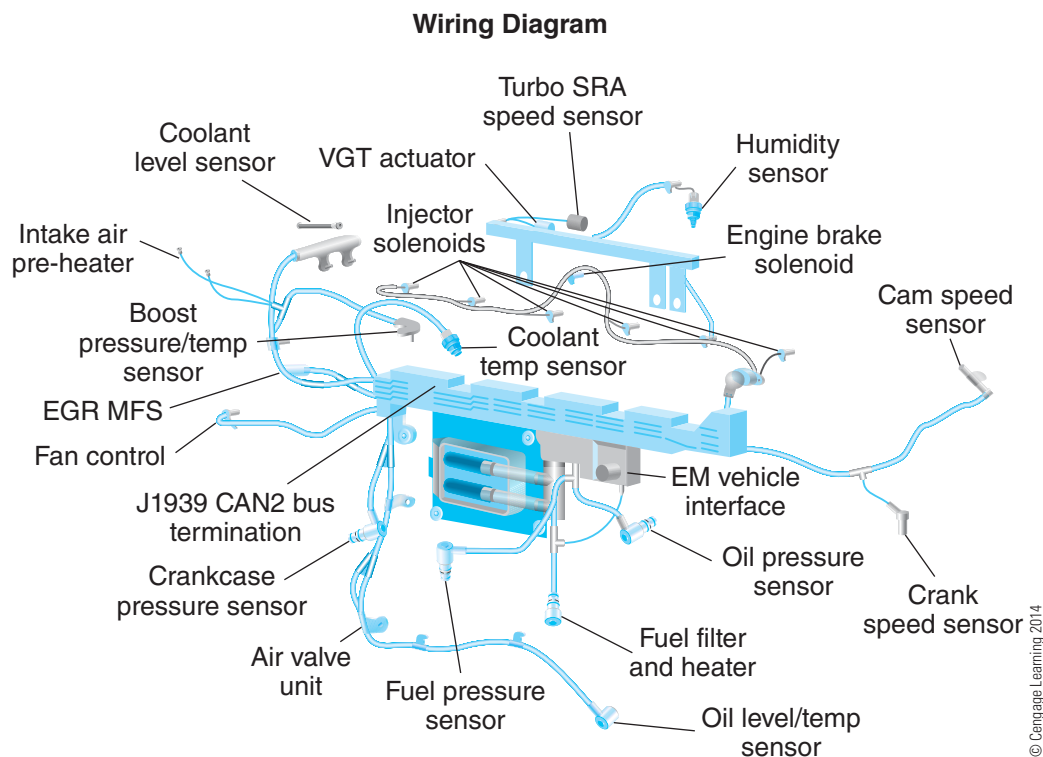
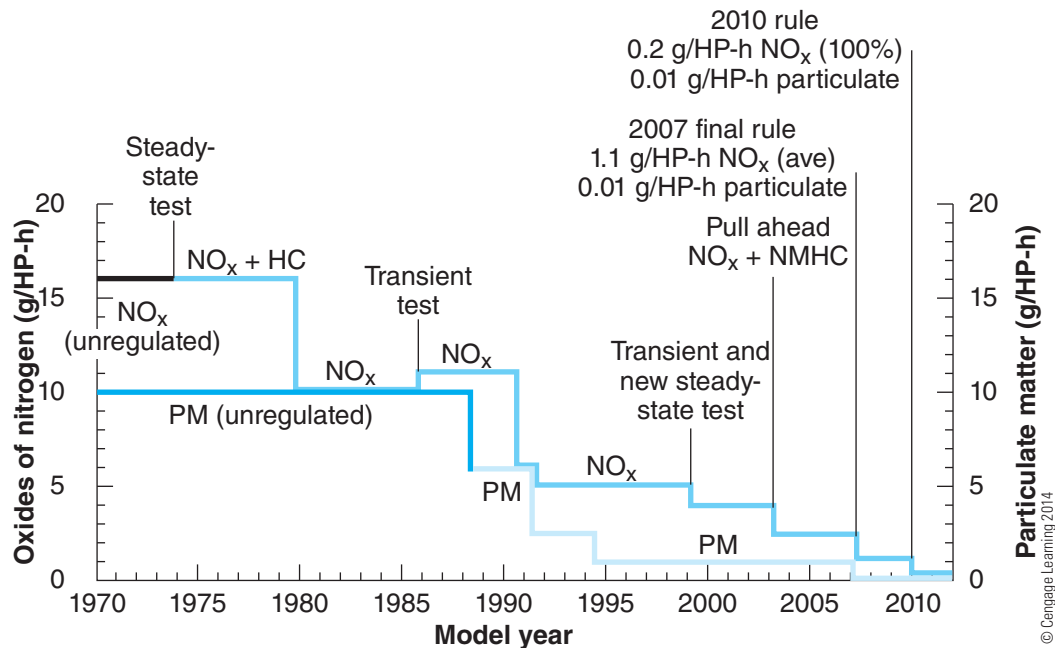

Figure 14-1 Typical 2010 engine wiring harness.
Figure 14-2 EPA heavy-duty diesel exhaust emissions for PM and NO_x.
A diesel engine wiring harness from a 1970s truck may have consisted of one wire for the fuel cut-off solenoid, not including the wiring for the starter motor and alternator. Compare this single wire to the Volvo VE-D16 engine wiring harness shown in **Figure 14-1**. One of the primary reasons for the addition of electronic controls to diesel engines was the reduction of exhaust emissions, as required by agencies such as the U.S. Environmental Protection Agency (EPA). Diesel engines have always had a reputation for being reliable and efficient. However, diesel engines of the past were also smelly, noisy, and polluting. **Figure 14-2** illustrates the reduction in EPA-mandated on-road diesel engine exhaust emissions since 1970. The most visibly evident change is **particulate matter (PM)** reduction, which includes all types of exhaust smoke. It is now rare to observe an on-highway truck belch out black smoke (soot), although this was a common sight just a few years ago. The reduction of **oxides of nitrogen (NO_x)**, one of the pollutants responsible for the formation of smog, has also required substantial changes in diesel engines. It is estimated that one model year 1988 HD truck produced the same amount of pollutants as 65 model year 2010 trucks.
The microprocessor in the ECM is programmed to make logical “decisions” on how it will control its *outputs* based on the information it receives from its *inputs*. This concept was introduced in **Chapter 13** for body control modules. The ECM inputs include a variety of sensors, such as those that would connect to the engine wiring harness shown in **Figure 14-1**. However, the primary ECM input is the crankshaft position and speed, which is typically obtained from the combination of camshaft and crankshaft position sensors, as explained in **Chapter 11**. The truck operator’s torque or speed request, obtained from the accelerator position sensor (APS), is also an important ECM input.